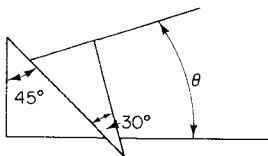

Fig. 7
18. Set squares are placed together as shown in Fig. 7. The angle  $\theta$  is